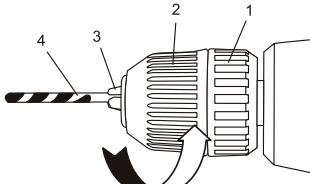

Fig. 3
1. To open the keyless drill chuck, grasp and hold the chuck collar (1) with one hand (Fig. 3). Rotate the chuck body (2) in a counter-clockwise direction until the chuck jaws (3) open wide enough to accept the bit (4).